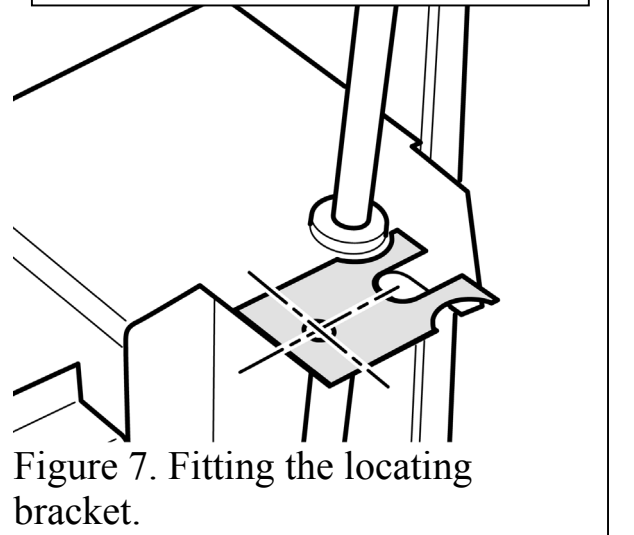

Figure 7. Fitting the locating bracket.
11. Position the locating bracket with its sides in line with those of the mounting bracket (See figure 7). Mark the position of the hole.